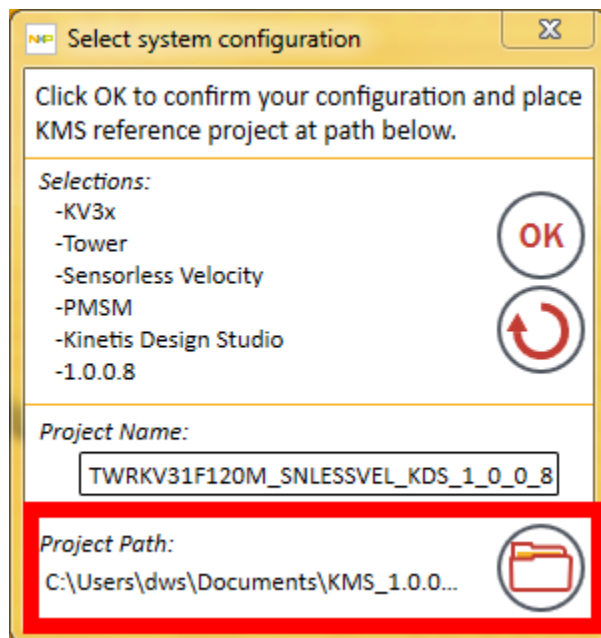
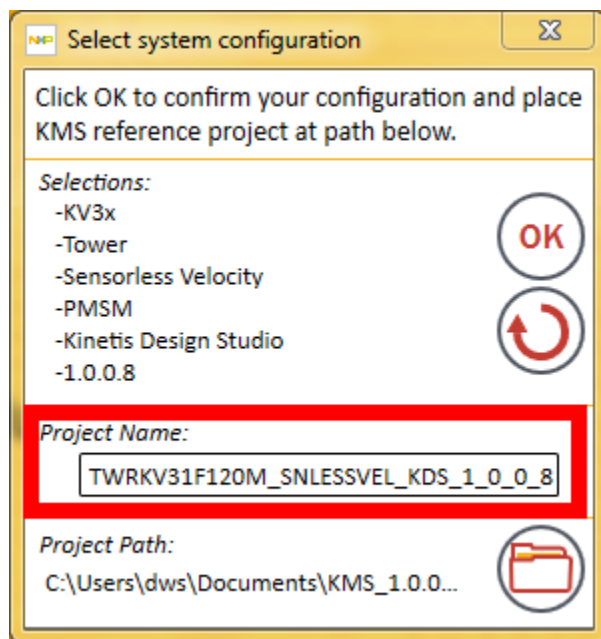

Figure 21. Change reference project parent directory
Figure 22. Change reference project folder name.
7. Confirm the system configuration by clicking OK. This step copies from the KMS system data location to the KMS user data location a version of the Motor Observer reference project specified by your system configuration selections. You may change the parent directory in which you place this KMS project (Figure 21). You may also change the name of the KMS project folder name (Figure 22).